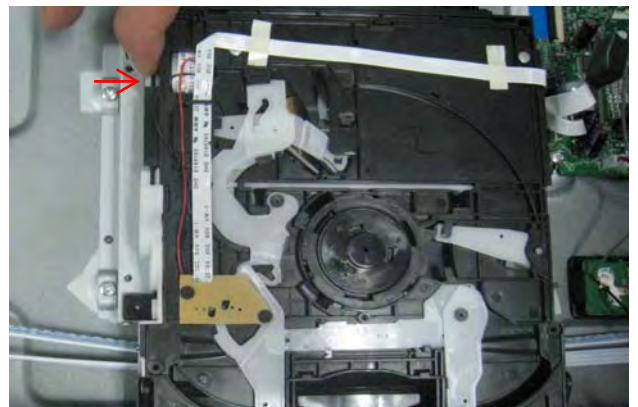

Figure 10
Step10: Dismantling Shield Cover, then turn the wheel of Open-Close Motor in counterclockwise direction. (Figure 10)